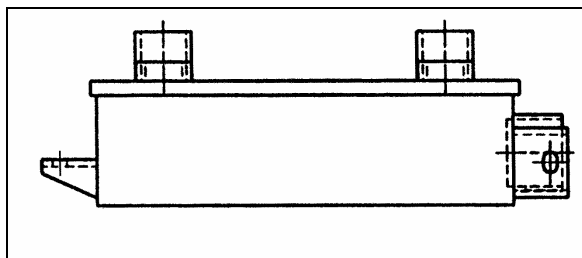

FIGURE 13: COOLER WITH RETARDER
18. Adjust the retarder pressure to  $80 \pm 3$  psi with the air pressure regulator. For more information refer to Section 12, "BRAKE AND AIR SYSTEM", under heading "AIR PRESSURE REGULATOR". The air pressure regulator is located near the Webasto in engine compartment, on R.H. side (Fig. 13).